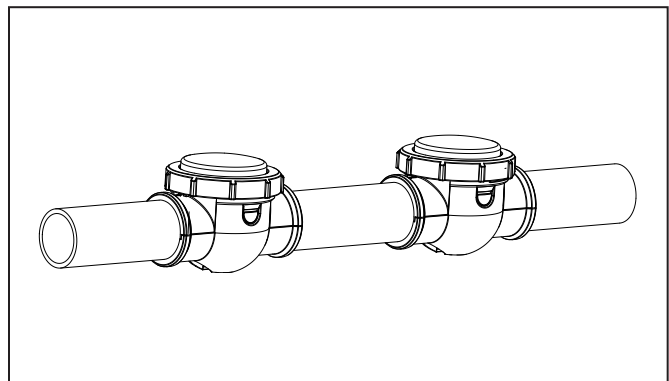

Figure 30. Installing the Winterizing Caps
7. Attach the winterizing cap (see Figure 30).